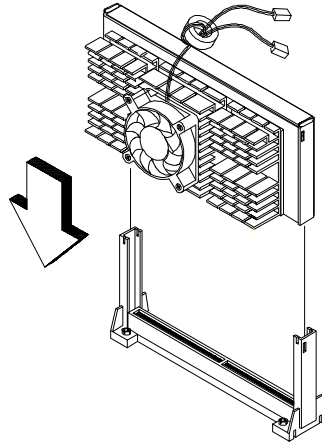

Figure 2-10 *Installing a Pentium II Processor*
2. With the processor module golden fingers pointing downward, align the processor to the posts of the retention mechanism then lower it down. See Figure 2-10.